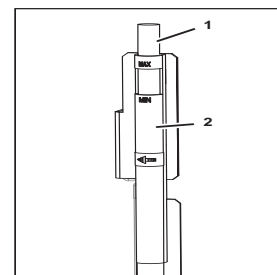

Fig. 23
1. Remove the tube (Fig. 23/1) of the water level gauge with the mount (Fig. 23/2).
2. Leave the tube (Fig. 23/1) of the water level gauge in position until the water bath is empty.
3. Insert the tube (Fig. 23/1) of the water level gauge with the mount (Fig. 23/2).